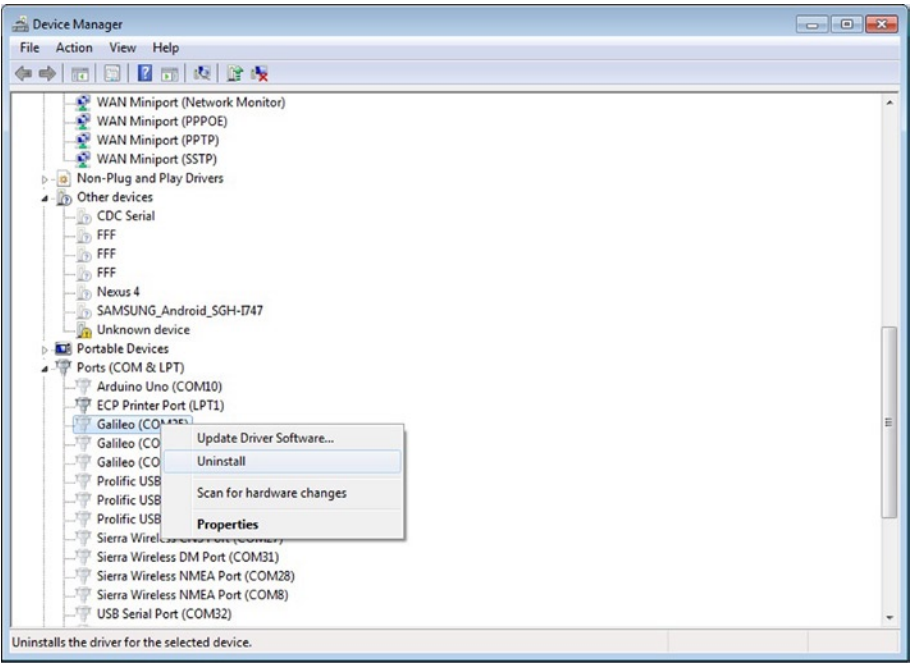

Figure 3-22. Right-click to uninstall hidden COM ports
4. Select the COM port to be uninstalled. Right-click it and select Uninstall. See Figure 3-22.